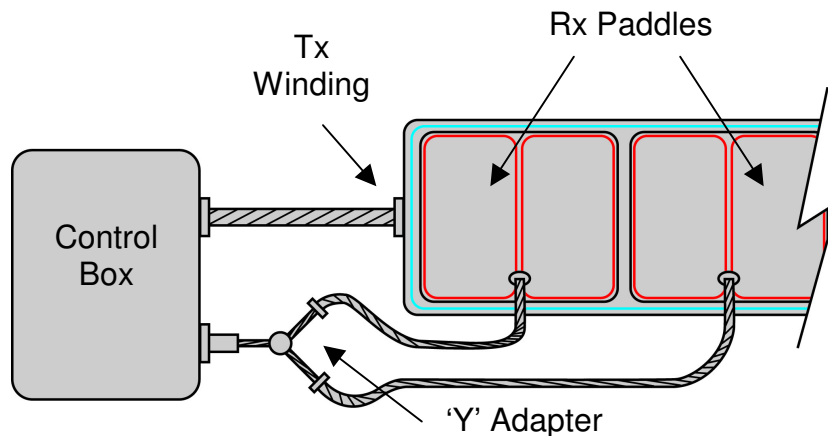
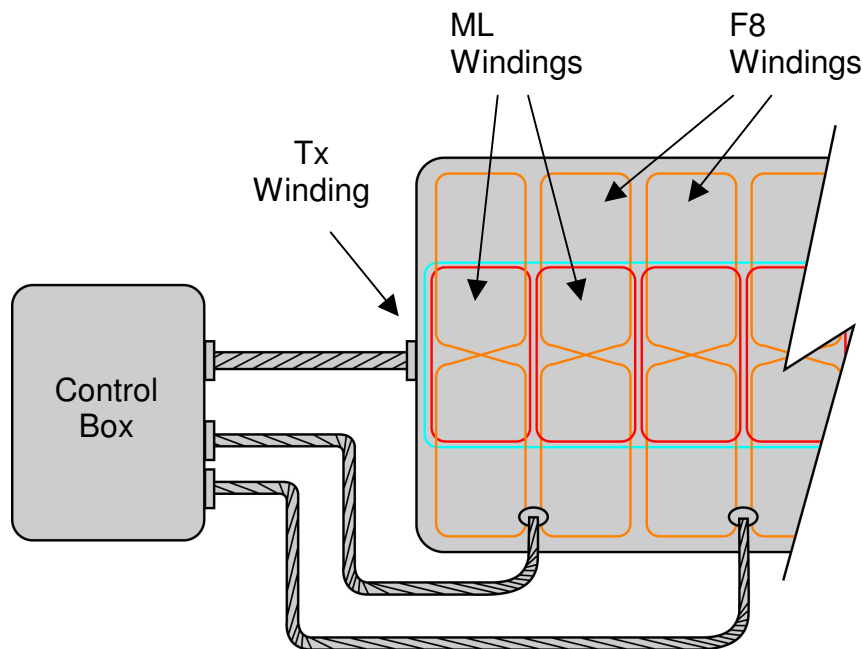

Figure 1.2a: Standard configuration, ML Sensor Head
Figure 1.2b: Optional configuration, ML/F8 Sensor Head
Receive (Rx) windings: There are two types of Sensor Head, each containing different configurations of Rx windings. Depending upon the specification of each particular system, the Sensor Head can contain Monoloop (ML) windings only (figure 1.2a), or pairs of a ML and a Figure '8' (F8) winding (figure 1.2b).